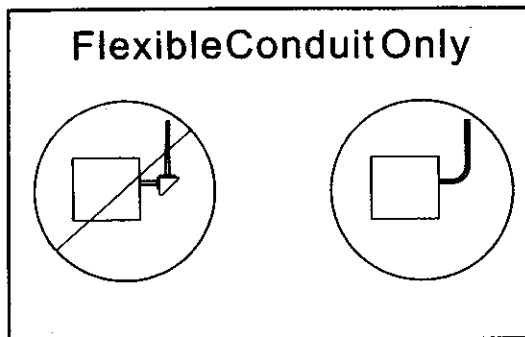

Figure 1
1. Mount the equipment securely in place (figure 1). The provided (4) mounting screws and (4) anchors are for mounting to surfaces suitable for use of such hardware such as STUCCO, CONCRETE, or similar surfaces. If mounting to surfaces where machine type screws and anchors (such as toggle bolts) or other types of anchoring hardware will be necessary, this hardware must be provided in the field by the installer. Consult factory for assistance if needed.